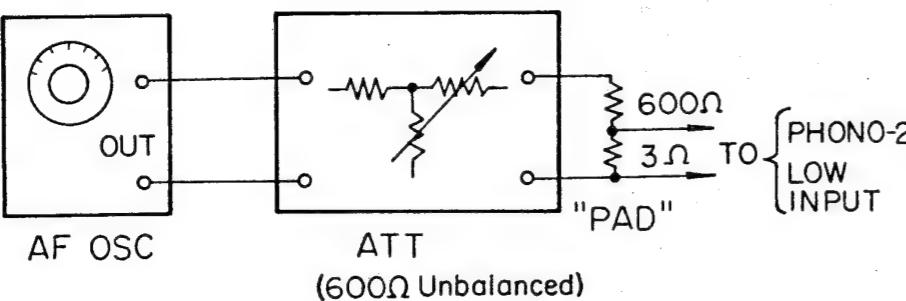

Fig. 3-1. PHONO-2 (LOW) Sensitivity Measurement Test Set-up
(8) PHONO-2 Input (LOW)
Step 3: Adjust the attenuator to obtain a 1 volt reading on the VTVM. The input sensitivity is the attenuator reading plus the pad loss. See Fig. 3-1.
(9) TAPE HEAD Input
(10) MIC Input